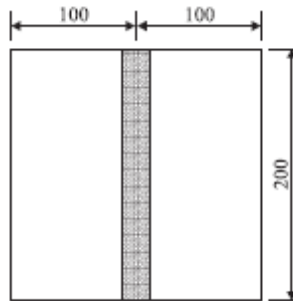

Fig. 5.6
- 6 Calculate the cost of welding two plates $200 \text{ mm} \times 100 \text{ mm} \times 8 \text{ mm}$ thick to obtain a piece $200 \text{ mm} \times 200 \text{ mm} \times 8 \text{ mm}$ approximately using rightward welding technique Fig. 5.6. BT3